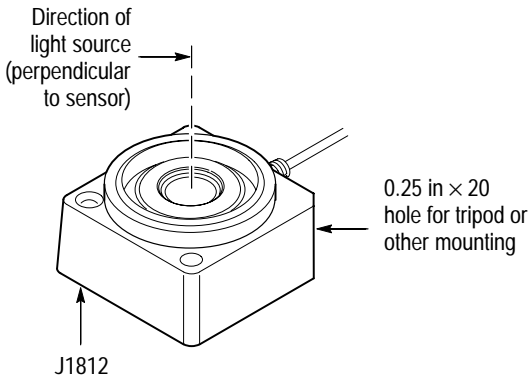

Figure 1–23: J1812 setup for laser measurements
3. Position the J1812 perpendicular to the laser beam. Refer to Figure 1–23.